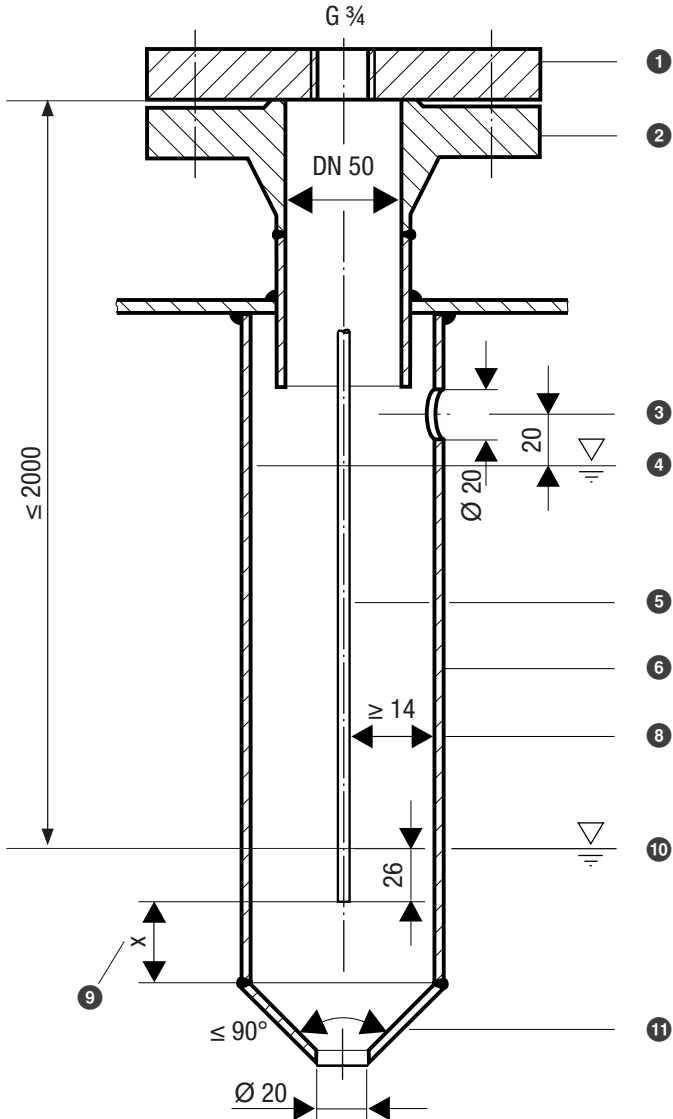
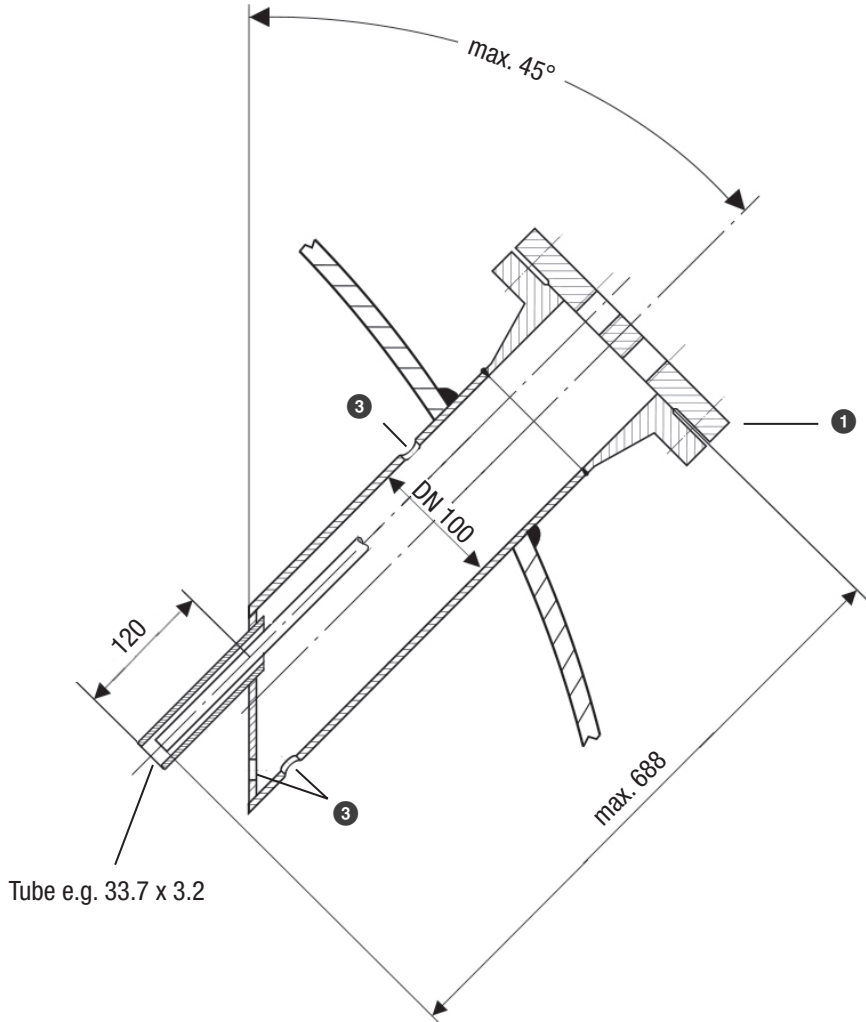

Fig. 12
Fig. 16
- Pay attention to the minimum clearances when installing the level electrode, see installation examples Fig. 12 to Fig. 16.
Installation example with dimensions, see Fig. 12, page 30
Key Fig. 12 to Fig. 16
- 1 Fig. 12, 13: Flange (PN 40, DN 50) EN 1092-1 (single electrode)